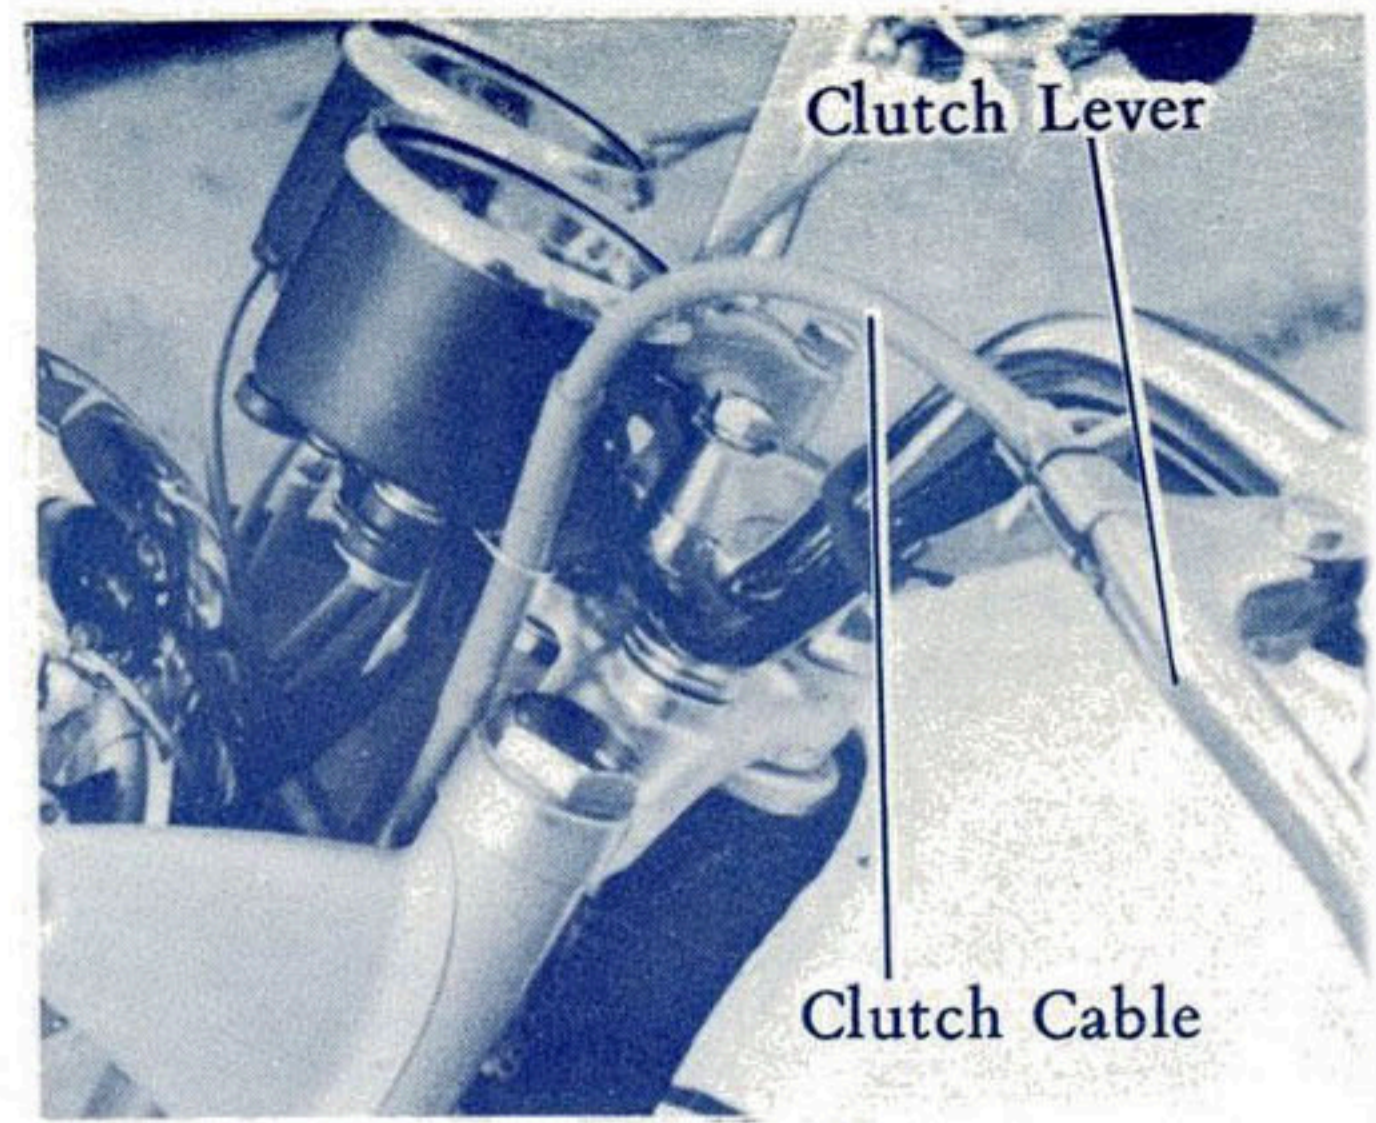

Fig. 14
4. Connect clutch cable to clutch lever as shown in fig. 14.